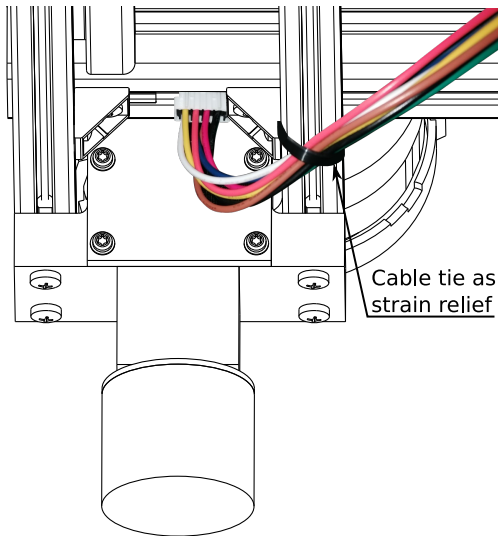

Figure 27: A cable tie firmly attaches the cable close to its connector. The cable is locked in place, reducing wear and tear on the connector.
It is absolutely paramount to attach each cable to a solid attachment point close to its connector. A good example is using cable ties wrapped around an aluminium profile. See Figure 27 below.
- on the Molex cable as it attaches to the actors (see Figure 27,)